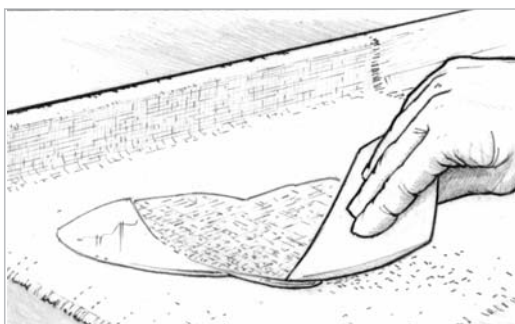

Figure 9-17 Spread the epoxy from the center of the fabric toward the edges with a plastic spreader.
5. Spread the epoxy over the cloth surface with a plastic spreader, working the epoxy gently from the pool into the dry areas (*Figure 9-17*). Use a foam roller or brush to wet out fabric on vertical surfaces. Properly wet out fabric is transparent. White areas indicate dry fabric. If you are applying the cloth over a porous surface, be sure to leave enough epoxy to be absorbed by both the cloth and the surface below it. Try to limit the amount of squeegeeing you do. The more you “work” the wet surface, the more minute air bubbles are placed in suspension in the epoxy. This is especially important if you plan to use a clear finish (see below). You may use a roller or brush to apply epoxy to horizontal as well as vertical surfaces.